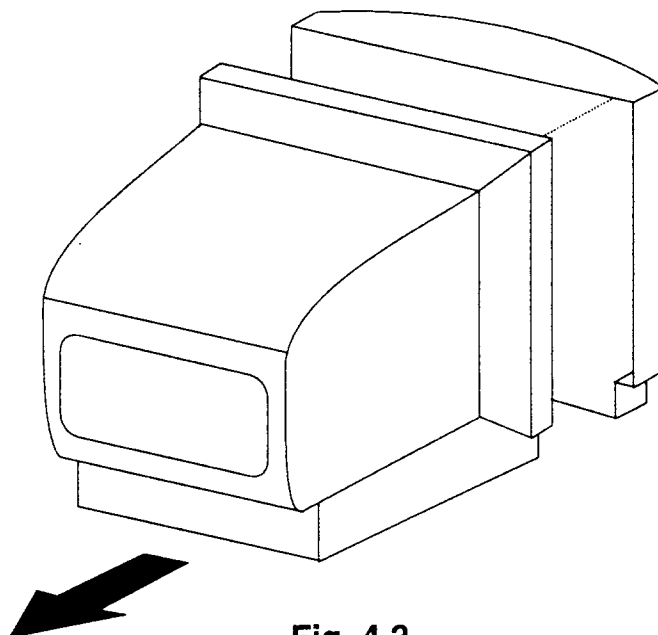

Fig. 4.2
- Remove the rear cover (4 screws), see Fig 4.2.